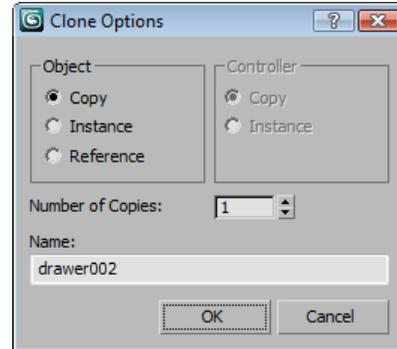

Figure 2-44 The Clone Options dialog box
1. Activate the Front viewport by middle-clicking in it and make sure the *drawer001* is selected. Next, move the cursor over the Y axis, press and hold the SHIFT key, and drag the *drawer001* downward until the value in the Y spinner of the Coordinate display at the bottom of the screen becomes around **-29**. Release the left mouse button and the SHIFT key; the **Clone Options** dialog box is displayed, as shown in Figure 2-44.